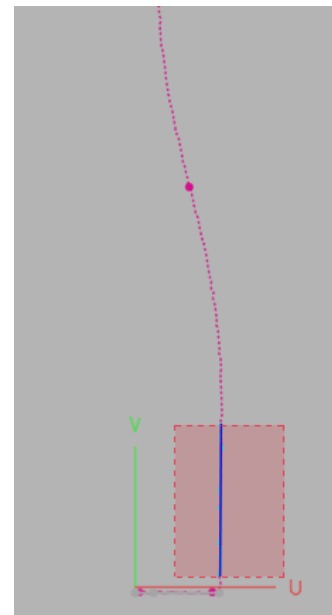

Figure 447
- Create a **Line** on a straight stretch of the pink profile line by using the rectangular selection method of drawing a line (**Figure 447**).